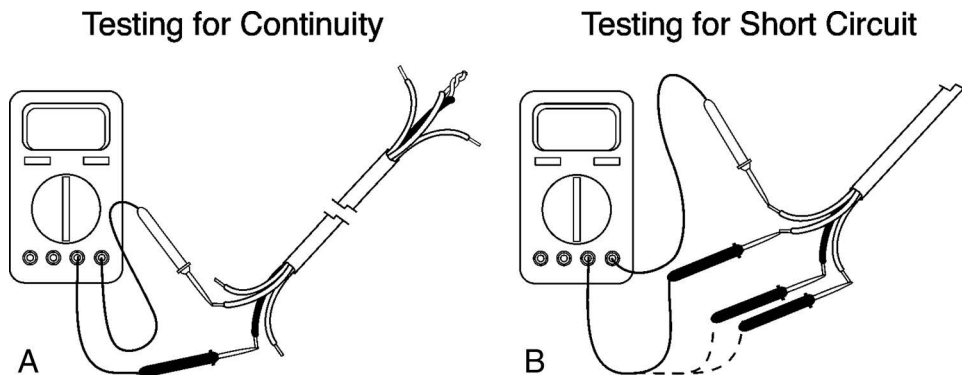

FIGURE 17.8
A circuit tester (Figure 17.7B) is used to test Edison outlets. It tells you whether (1) the circuit is hot, (2) the polarity is correct, and (3) the grounding wire is present. A similar device is available for Socapex cable. A plug-in voltmeter (Figure 17.8) gives a constant readout of system voltage.